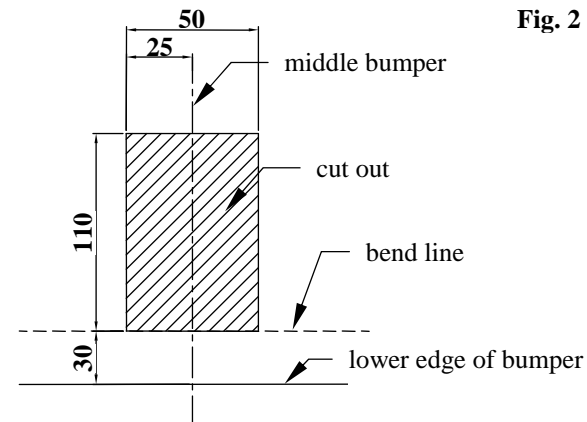

Fig. 2
4. Reassemble bumper after cut out it's fragment according to figure 2.
5. Fix tow-ball (pos. 2) with socket plate (pos. 3) using bolts M12x75mm (pos. 6) and M12x70mm (pos. 7) from accessories.